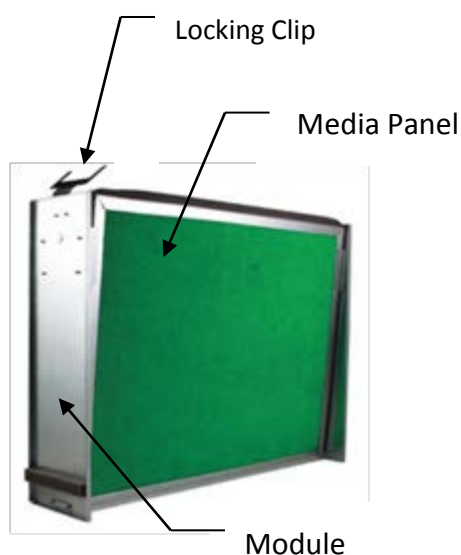

Figure 5-3-1
4. Place the Module on edge with the open side up, “V” side down (refer to Figure 5-3-1).
5. Flip the Locking Clip up (refer to Figure 5-3-1).